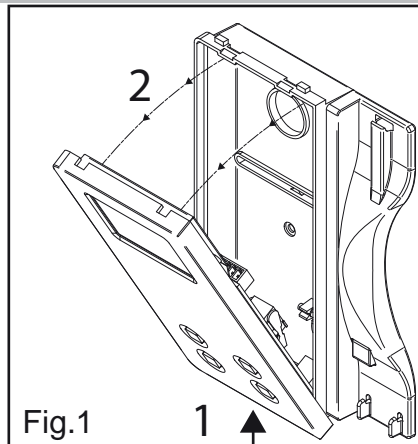

Fig.1
- In order to install the videophone, it is necessary to remove the cover, which contains all the electronics, from the base: firstly disconnect the handset from the videophone (by removing its plug from the videophone), then press lightly the bottom part of the videophone and simultaneously pulling outwards the upper part as shown in figure 1.